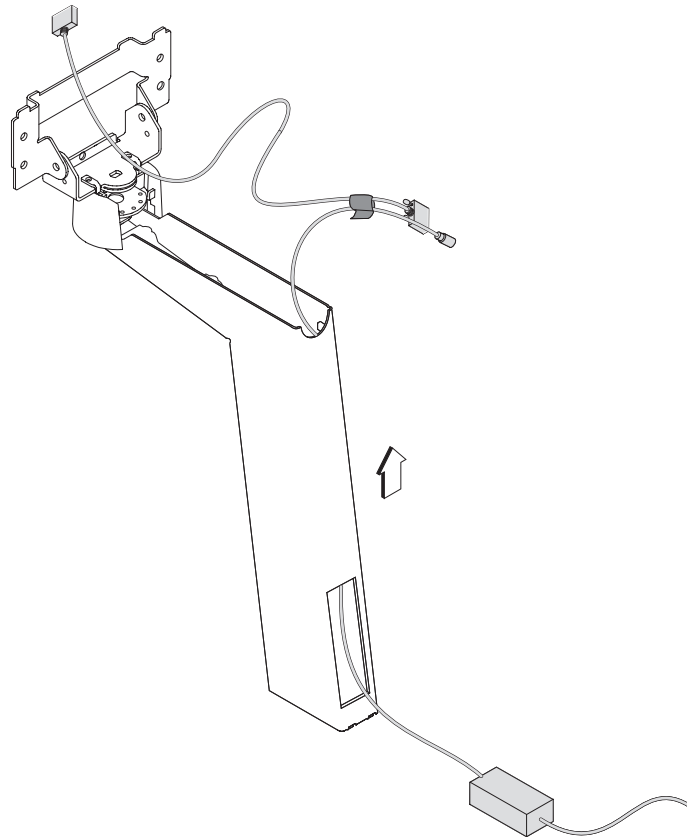

Figure 2-15. Routing the video and power cables
4. Pull the video and power cable attachment up through the distributed pedestal (see Figure 2-15).